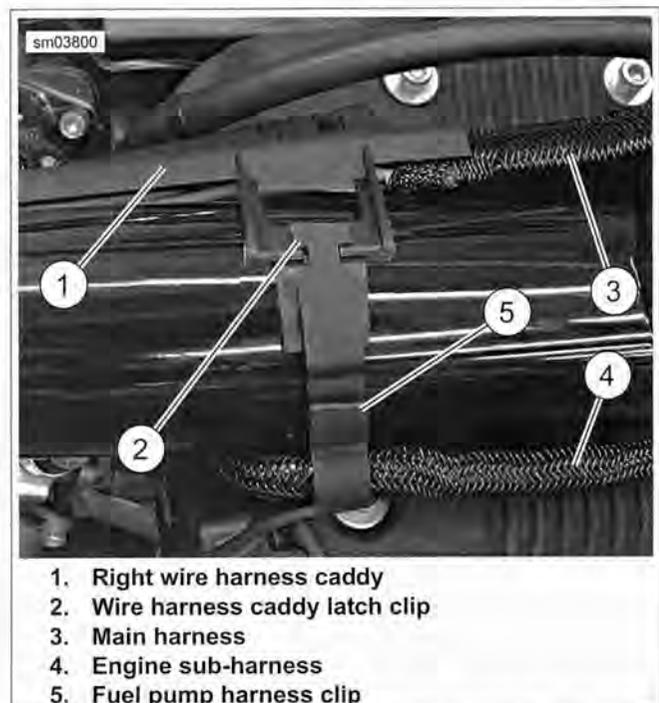

Figure 6-110. Right Wire Harness Caddy Latch Clip (typical)
See Figure 6-110. Make sure fuel pump harness rests in harness clip (5) on wire harness caddy latch clip (2).